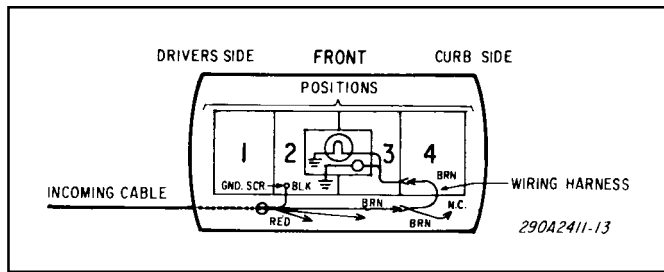

Figure 4.
2. If applicable, remove any existing components from positions two and three (see figure 4).